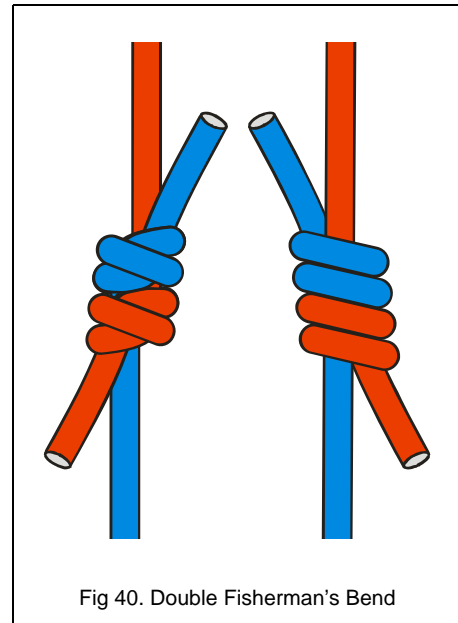

Fig 40. Double Fisherman's Bend
Figure 40 shows correct dressing of a double fisherman's bend. Take notice of the crosses on one side and the parallel sections of rope on the other.
11. Dress and pack the finished knot. Check the dressing of the finished double fisherman's bend by ensuring that it has crosses on one side and parallel sections of rope on the other as shown in *figure 40*.